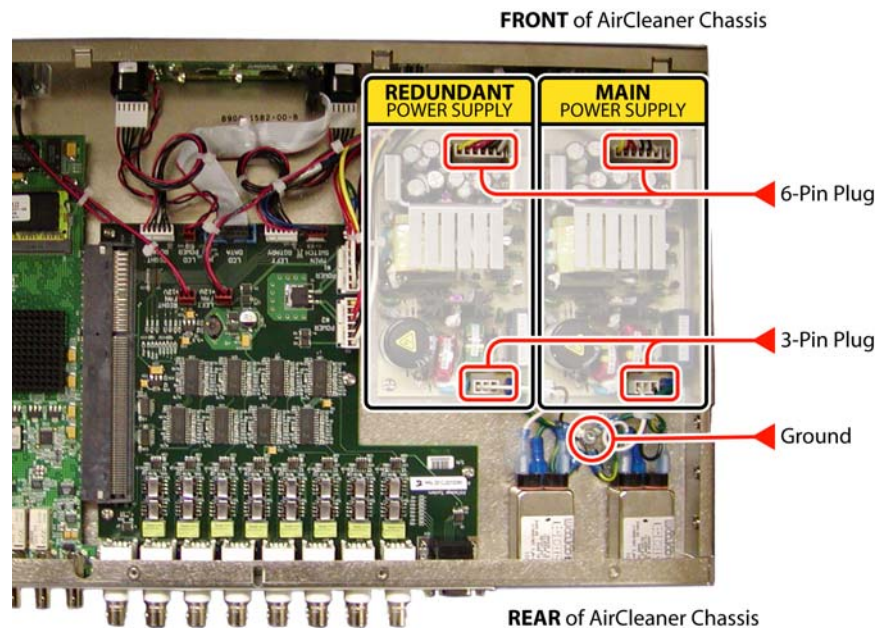

Figure 3-2. Power Supply Module - Location
2. Remove chassis top cover (See "Removing AirCleaner Top Cover" on page 24); determine which power supply needs to be replaced; see Figure 3-2 below.
6. Remove the (4) phillips-head screws that hold down the power supply module.